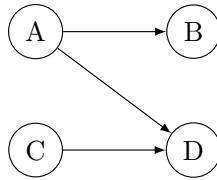

Figure 3.22: “N” system
3. Consider the configuration in which component D is also available for system 1 (this is a so-called “N” system, see Figure 3.22). Hence, system 1 works as long as A works and B or D work. System 2 works if both C and D work. Calculate the probability that after 1 hour both systems still work.